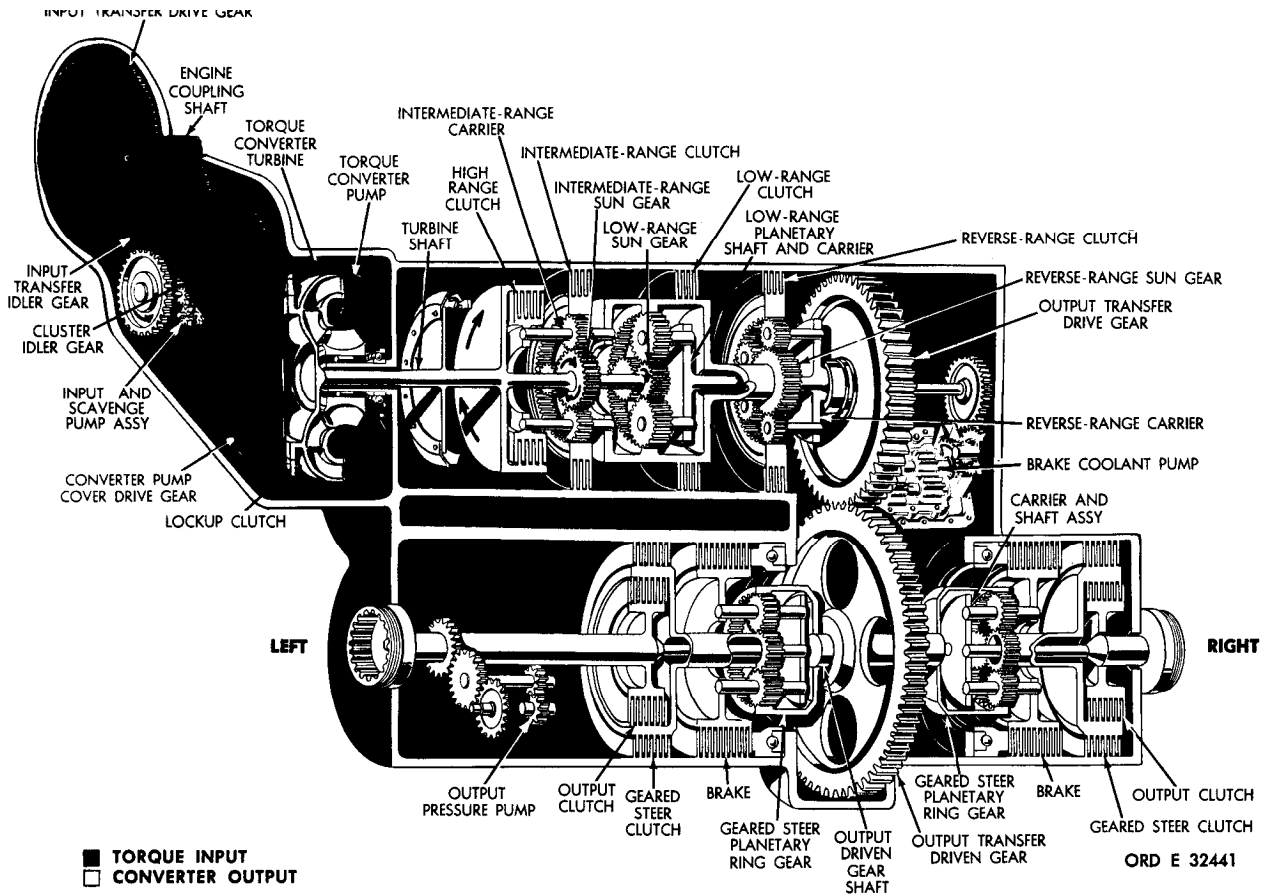

Figure 22. Neutral torque path
c. At lower speeds, when high torque is required, the lockup clutch is released. At higher speeds, when less torque is required, the lockup clutch is engaged. Lockup engagement can occur in every gear range and in neutral. In figures 22 through 34 the converter
(fig. 22)